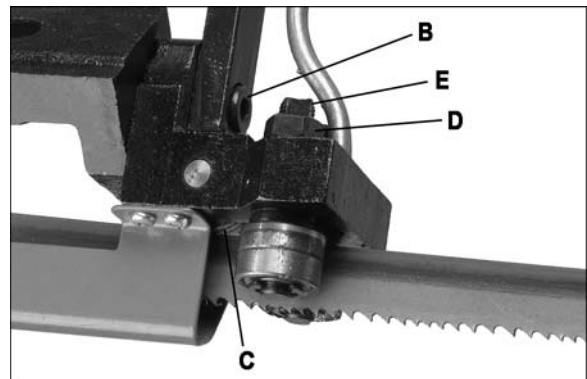
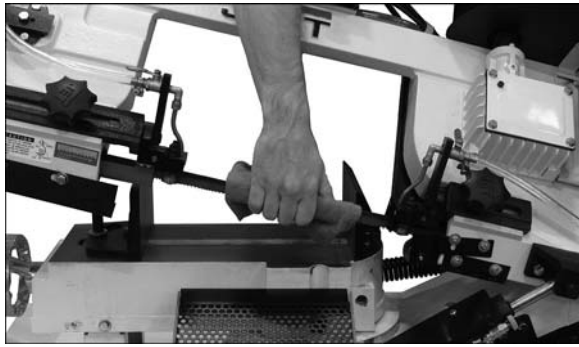

Figure 26
Figure 27
3. Loosen socket head cap screw (B, Figure 26) and adjust guide assembly until back roller bearing (C) is slightly contacting back edge of blade.
4. Loosen nut (D) and rotate eccentric shaft (E) to adjust side bearing until bearing just touches side of blade. Do not pinch the blade.
5. Blade should still move up and down freely when grasped as in Figure 27. Make sure blade teeth do not interfere with guide bearings.